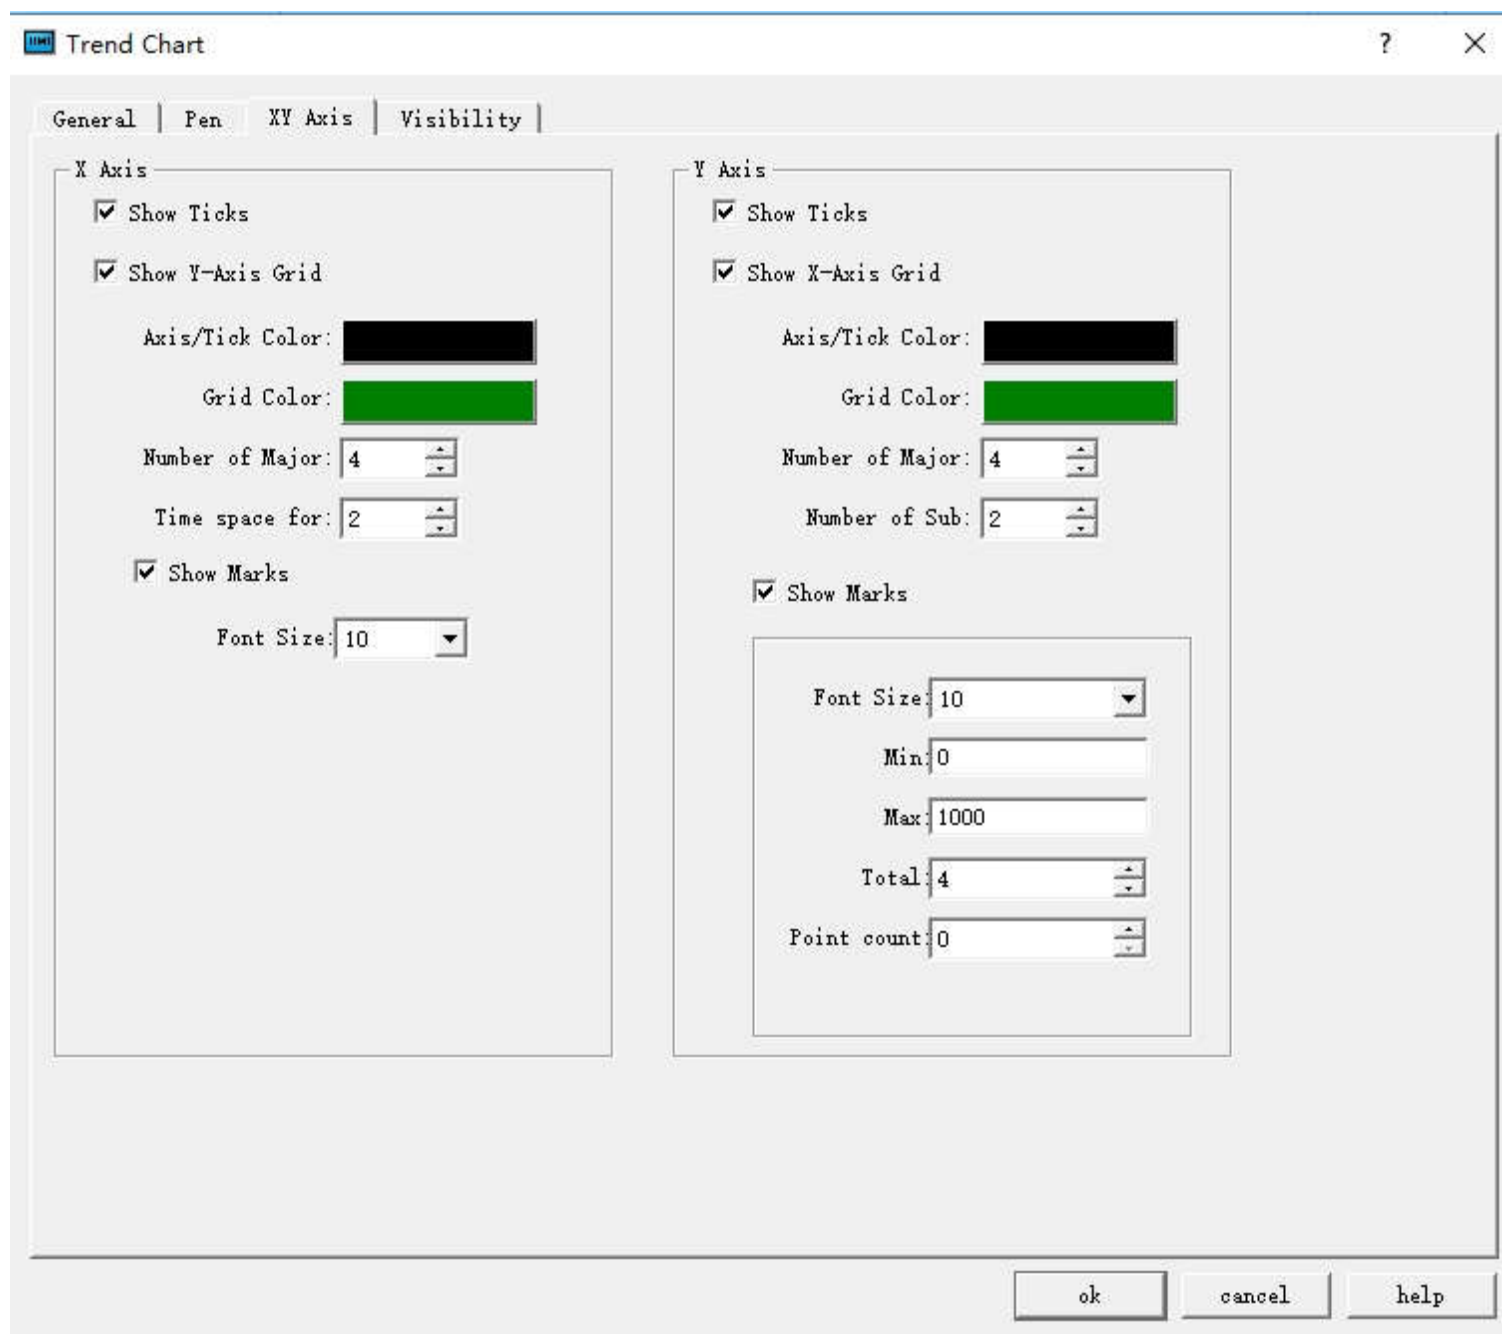

Figure 4-52 Trend Chart XY Axis Dialog Box
3. The "XY Axis" page of the trend chart is shown in Figure 4-52: